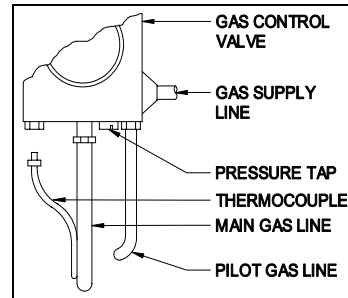

Figure 8
1. Remove pressure tap plug in gas valve. (See Figure 8)
1. Remove the thermocouple from the gas control valve. (See Figure 8)